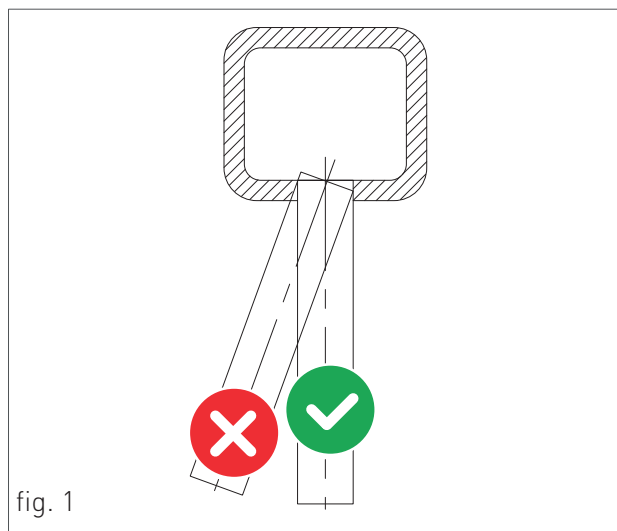

fig. 1
- › The discharge duct must be perpendicular with the opposite internal wall of the chimney or of the fumes exhaust duct (fig. 1).
For this type of water heater are available the following fumes discharge configurations: B23P, B33, C13, C33, C43, C53, C63, C83 e C93 (see Fig. 1).